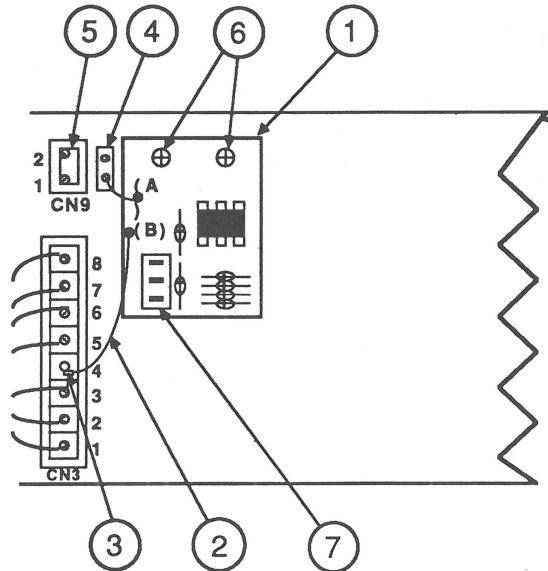

FIGURE 24
3. Before attaching the daughter board and bracket from the kit (Figure 24, #1), plug the yellow wire (Figure 24, #2) from the daughter board into the open slot at position 4 of female connector CN3 (Figure 24, #3). Be sure the connector from this wire enters the slot with its two tiny metal flanges facing away from the board.
4. Install the 2-pin connector (Figure 24, #4) from the daughter board into the main logic board at location CN9 (Figure 24, #5).
6. Match the screw holes (Figure 24, #6) on the daughter board with the holes on the installation bracket, and mount the board onto the bracket.